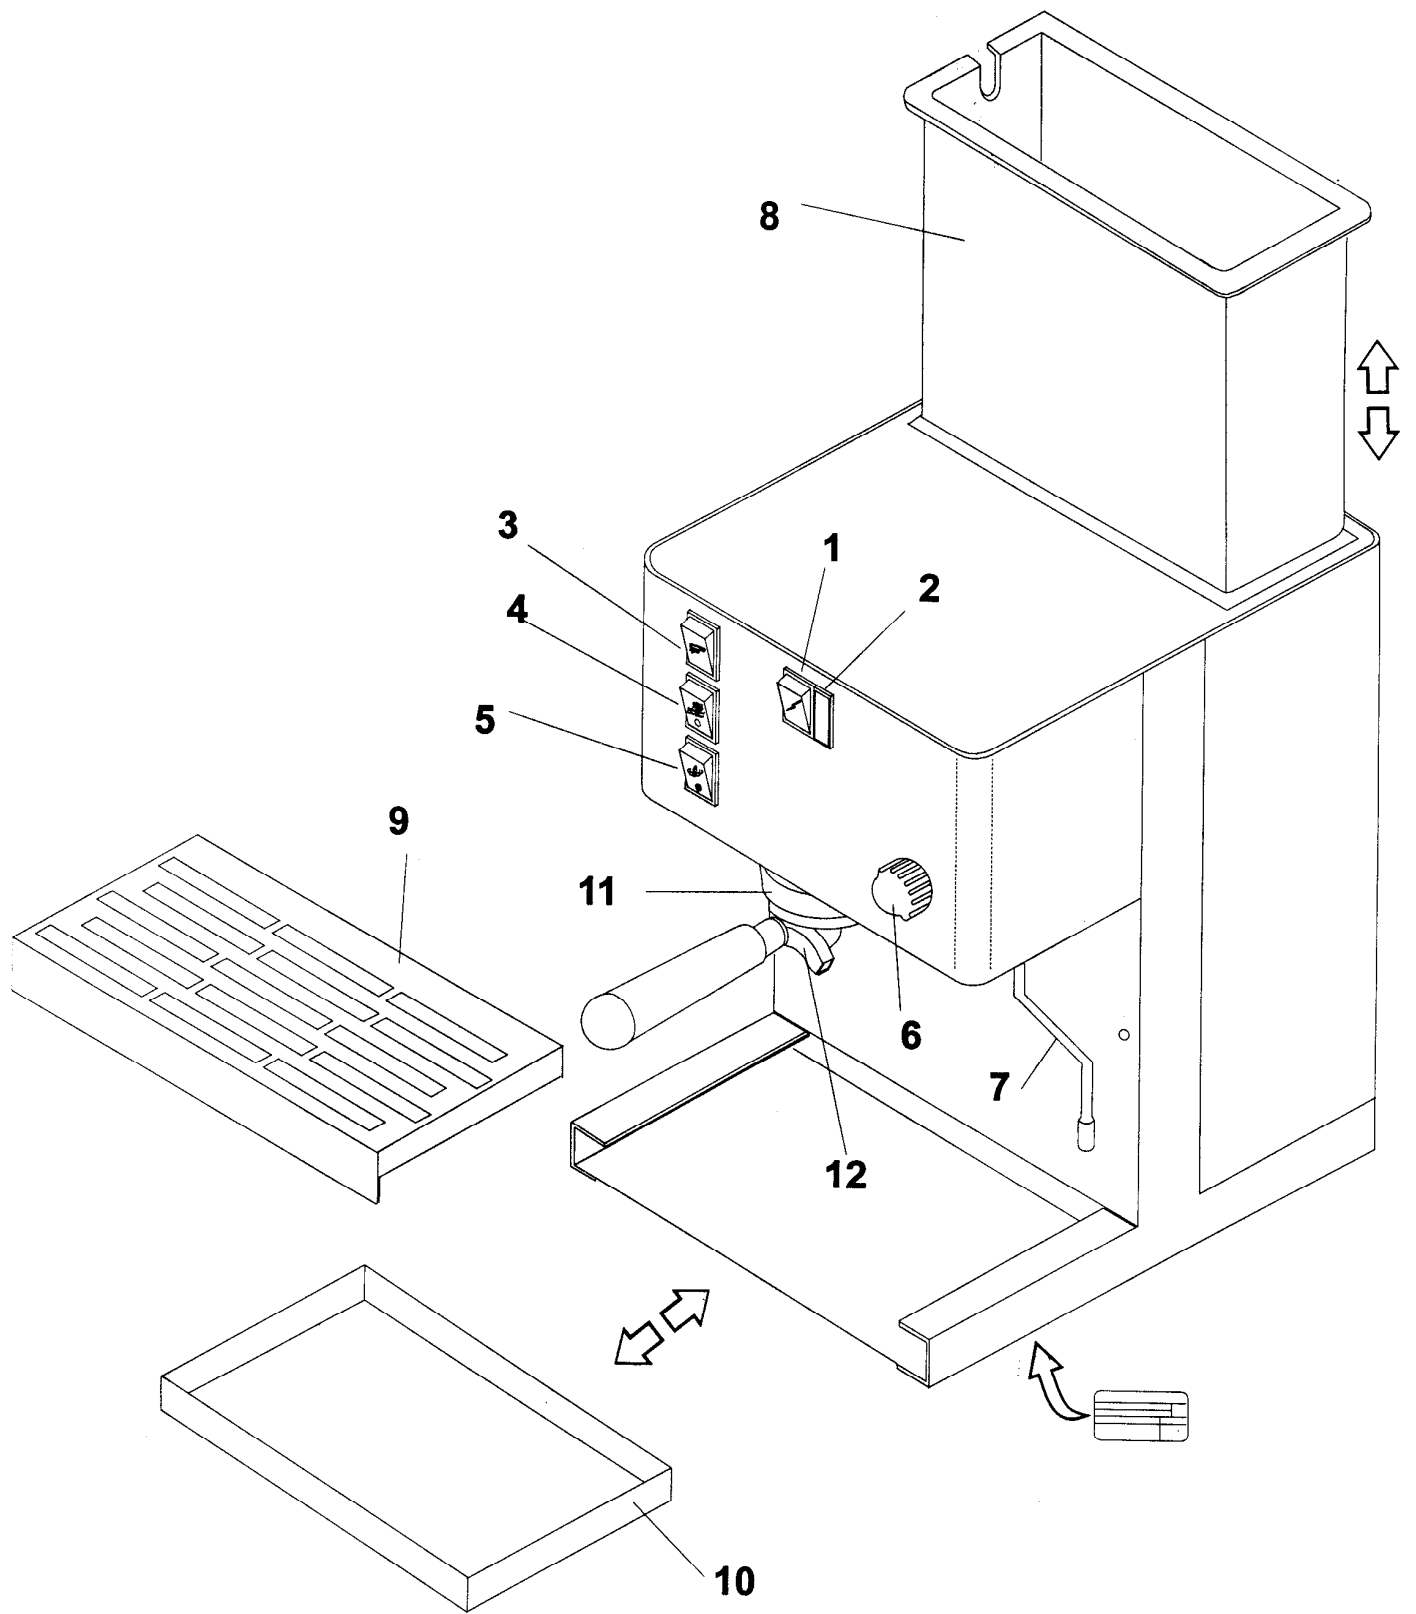

Fig.1
- Release filter ring 12 Fig.1, open the steam tap 6; then press the main switch 1 and, at the same time, press the coffee-switch 3.
Filling the fresh water tank Fig.1